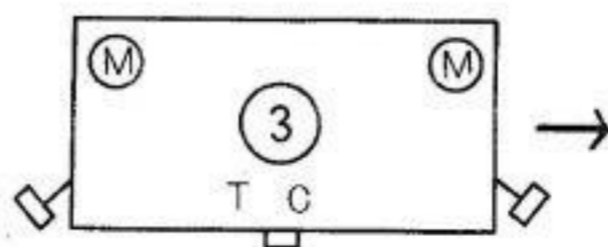

Fig. 32
3. Carriages now on left. Detach ribber carriage from machine carriage and move machine carriage only from left to right—see Fig. 32.